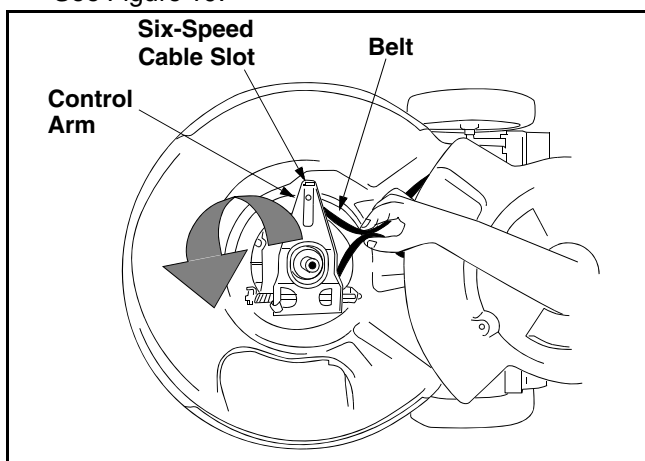

Figure 19
- Squeeze the belt together and push it forward, while pressing the control arm inward towards the deck and remove the six speed cable from the slot. See Figure 19.